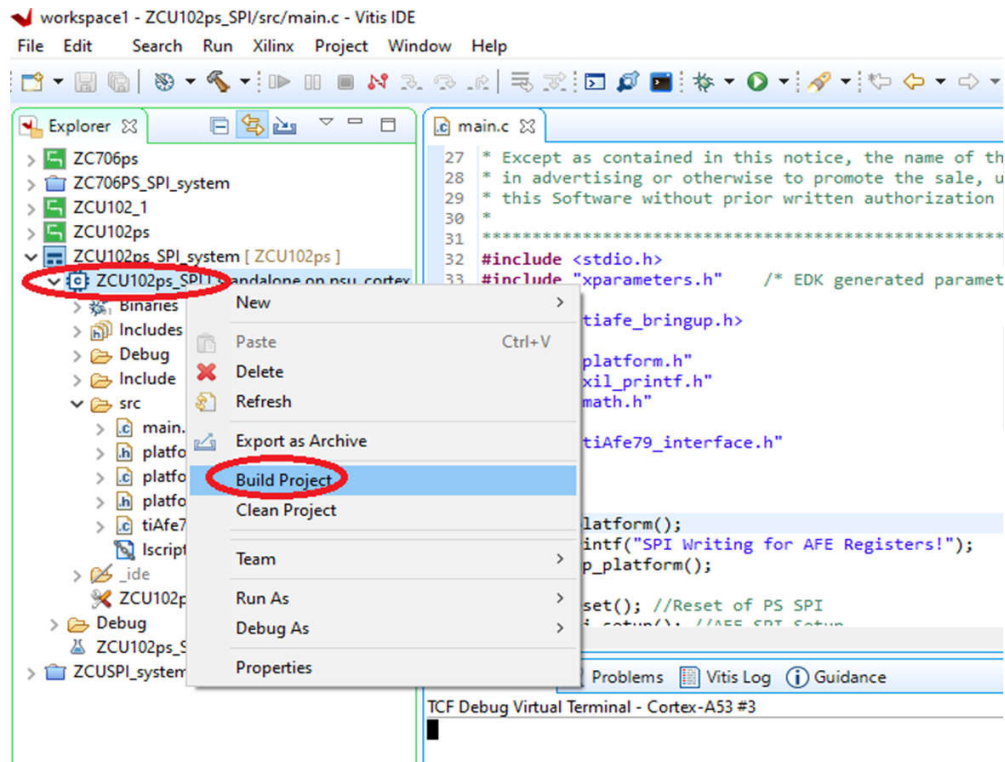

Figure 8-1. Building Project
1. Right-click the application name and select *Build Project* (see Figure 8-1).